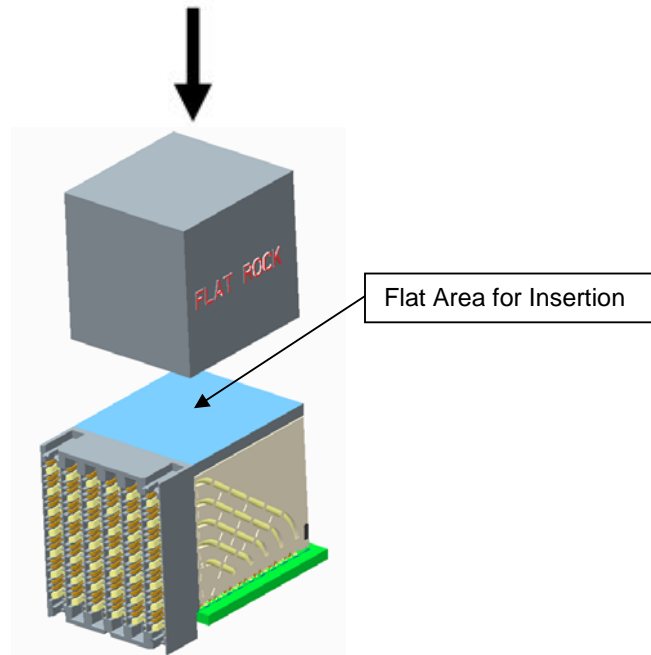

Figure 34: Flat Rock Tool Application to Seat Right Angle Connector
- Using a flat rock surface and an insertion press, apply force to the flat area of the connector as shown in figure 34.